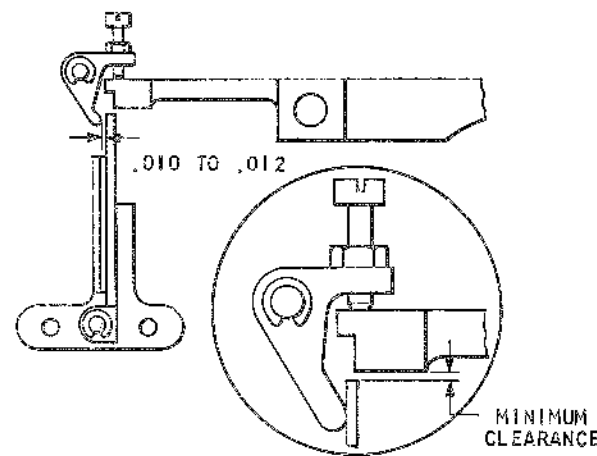

Figure 33. Clutch Armature Knockoff
3. With the cam follower on the high dwell, set the armature knockoff for .010" to .012" clearance between the armature and the knockoff (Figure 33).